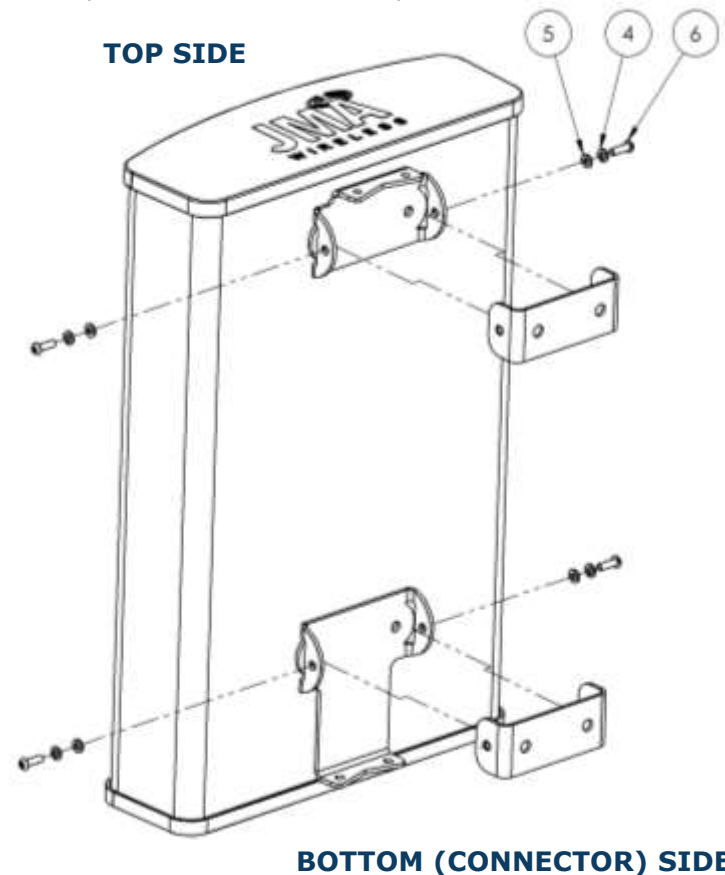

Figure 10: Fastener assembly steps.
4. Insert the fasteners 4, 5, 6 as shown in *Figure 10* below.